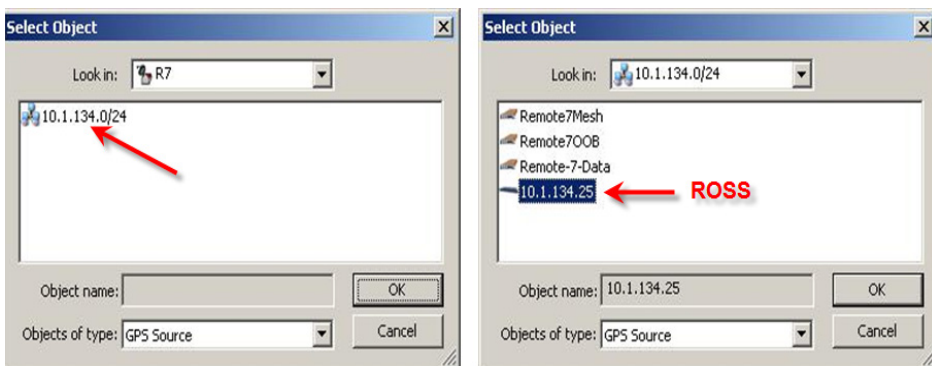

Figure 3-56 Selecting ROSS Unit for SOTM
3. Check the **Dynamic** box and select the browse button beneath it. This will open a dialog box in which the subnet should appear (figure 3-56).